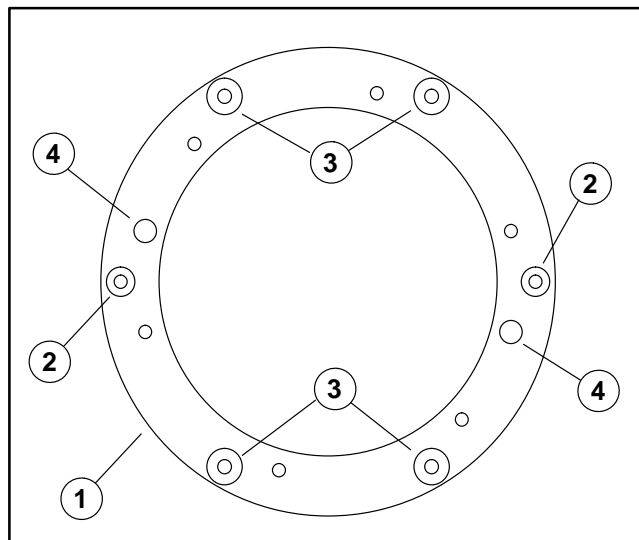

Figure 15
1. Position coupling spacer to engine and align mounting holes. Use two shoulder bolts and lockwashers in the positions shown in Figure 15 to secure the spacer to the half threaded holes in engine flywheel. Torque shoulder bolts from 10 to 12 ft-lb (13.6 to 16.3 N-m).
3. Place dowels in locating holes of coupling spacer (Fig. 15).